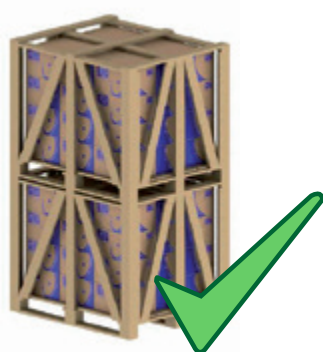
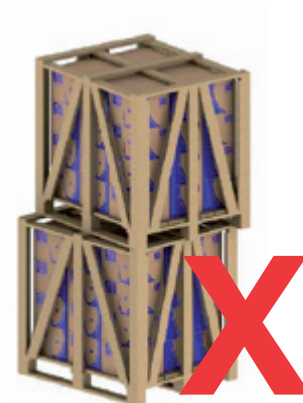

Figure 5.1 - Correct stacking
Figure 5.2 - Incorrect stacking
- 2) Align the packaging correctly (see Figure 5.1 and Figure 5.2);